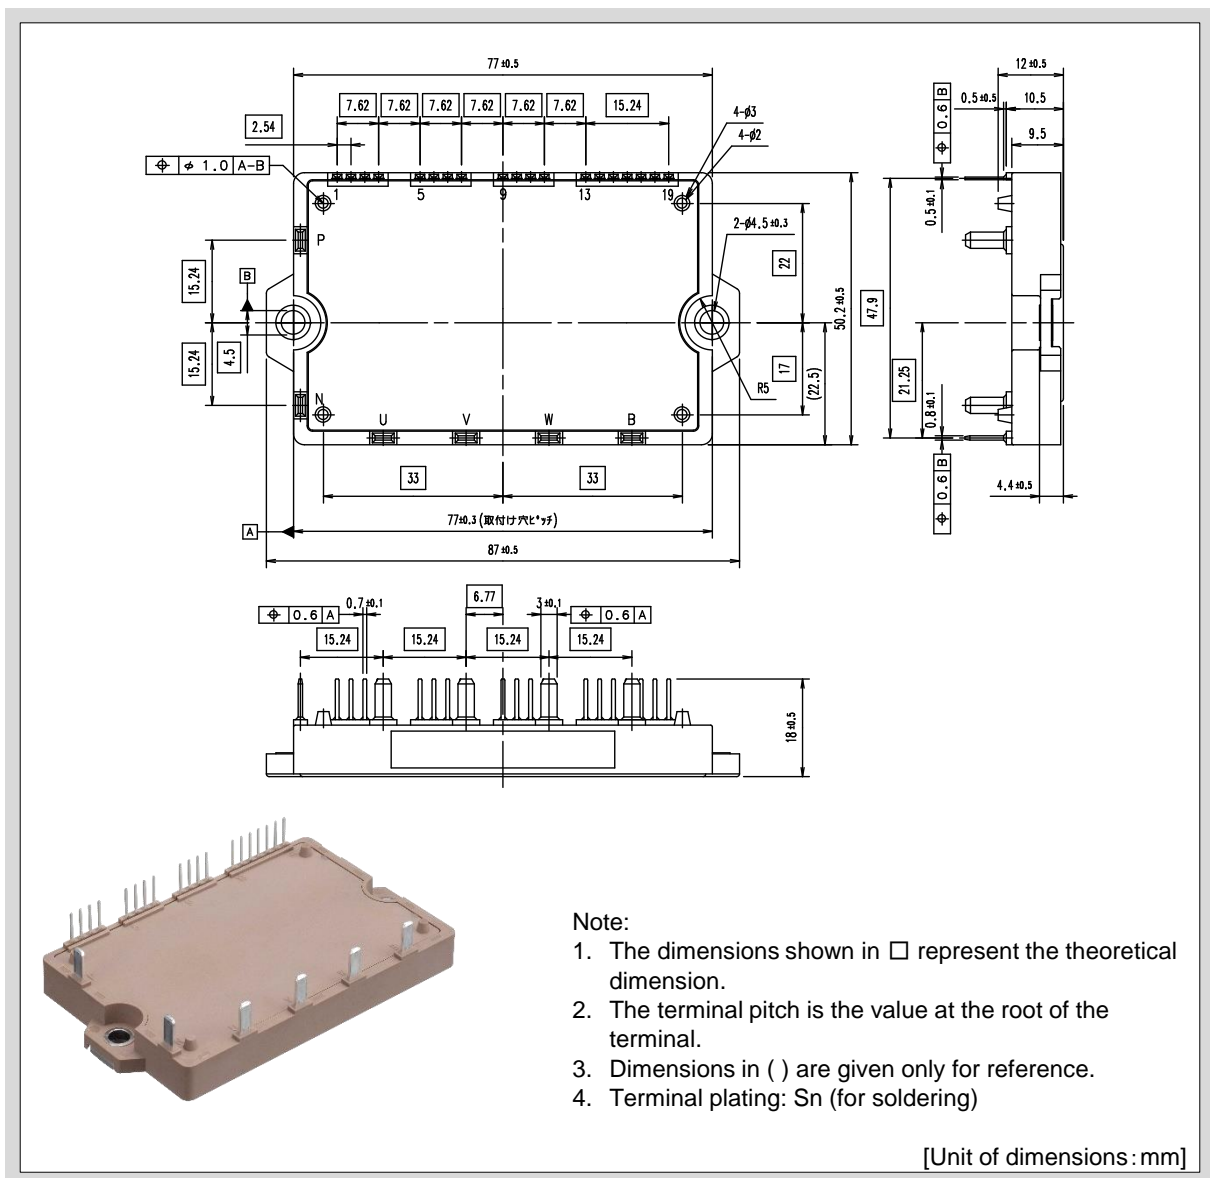

Fig.1-5 Package outline drawing (P644)
- The package outline drawing is shown in Figure 1-5.